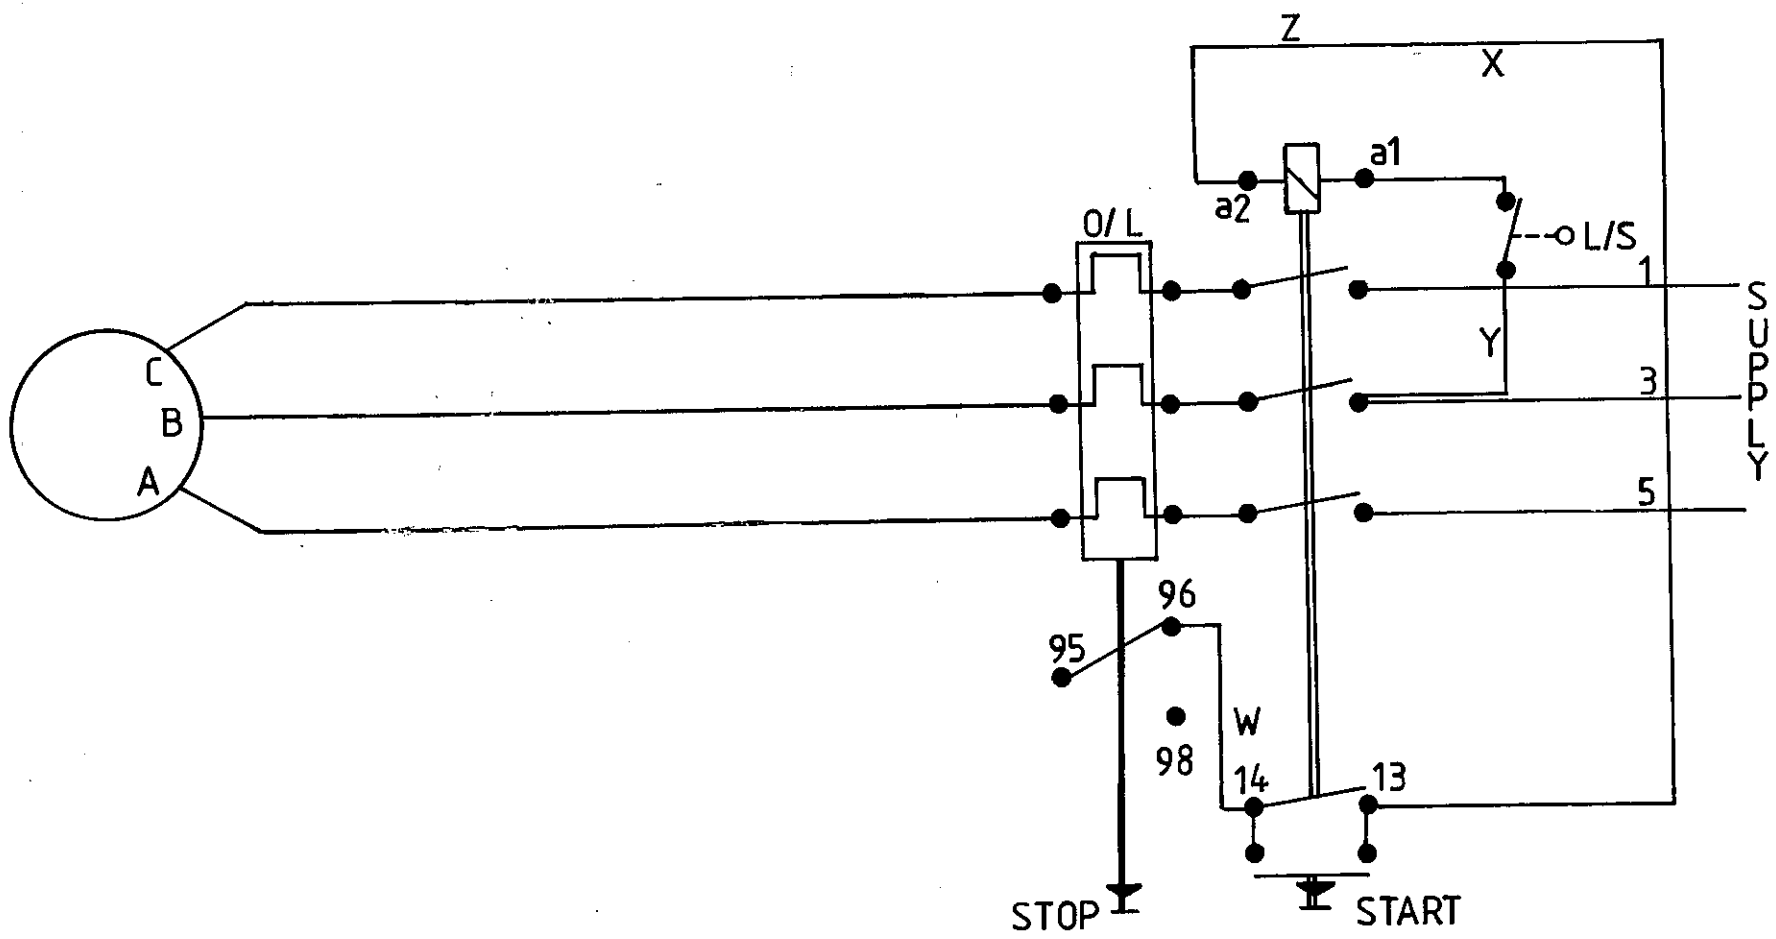

FIG. 4
- 4) Connect the line leads to the appropriate terminals. See wiring diagrams FIG.4.